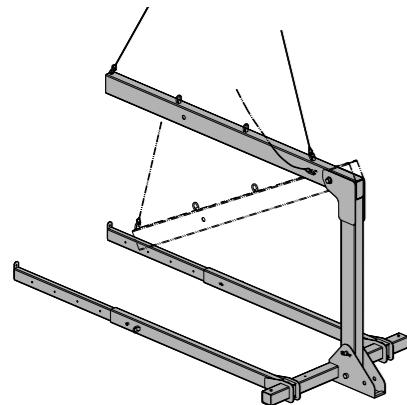

Fig. 5.5 When the pull from the crane is released, the boom swings down to allow the load hooks to be removed at ground level
- When the transport spreader is completely folded out, replace the bolt and secure it with the cotter pin (Figures 5.5 and 5.6).
When the pull from the crane is released, the boom swings down to allow the load hooks to be removed at ground level (Figures 5.5 and 5.6).